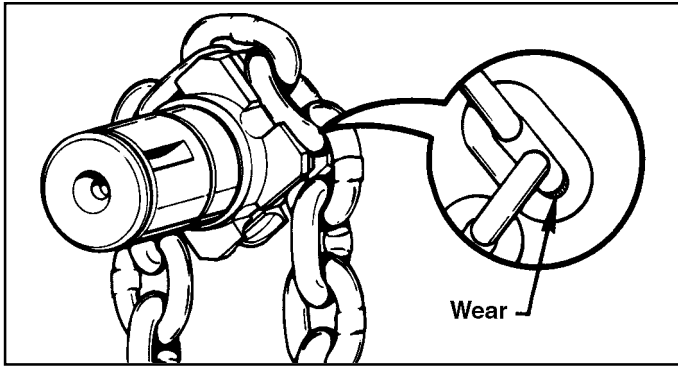
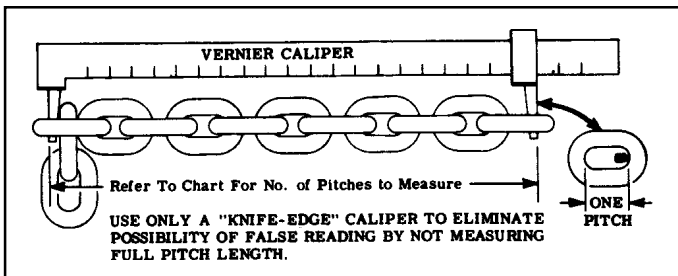

Figure 5-1. Check Chain Wear at Bearing Surfaces Between Links
Figure 5-2. Check Coil Chain Using Vernier Caliper
(2) **Link Type Load Chain.** Clean chain for inspection. Examine visually for gouges, nicks, weld spatter, corrosion or distorted links. Slacken chain and check bearing surfaces between links for wear, fig. 5-1. Greatest wear will often occur at sprocket at high or low point of lift, particularly when hoist is subjected to repetitive lifting cycles. Case hardness of chain is about .015" deep. Chain must be replaced before the case is worn thru. Also check chain for elongation using a vernier caliper (fig. 5-2). Select an unworn, unstretched section of chain (usually at slack or tail end) and measure and record the length over the number of chain links (pitches) indicated in figure 5-2. Measure and record the same length of a worn section in the load side of the chain. Obtain the amount of wear by subtracting the measurement of the unworn section from the measurement of the worn section. If the result (amount of wear) is greater than the amount specified in the "ALLOWABLE CHAIN WEAR" table, the chain has elongated beyond the maximum allowable length and must be replaced. Chain with excessively pitted, corroded, nicked, gouged, twisted or worn links should be replaced using only factory approved chain. Never weld or attempt to repair link chain.